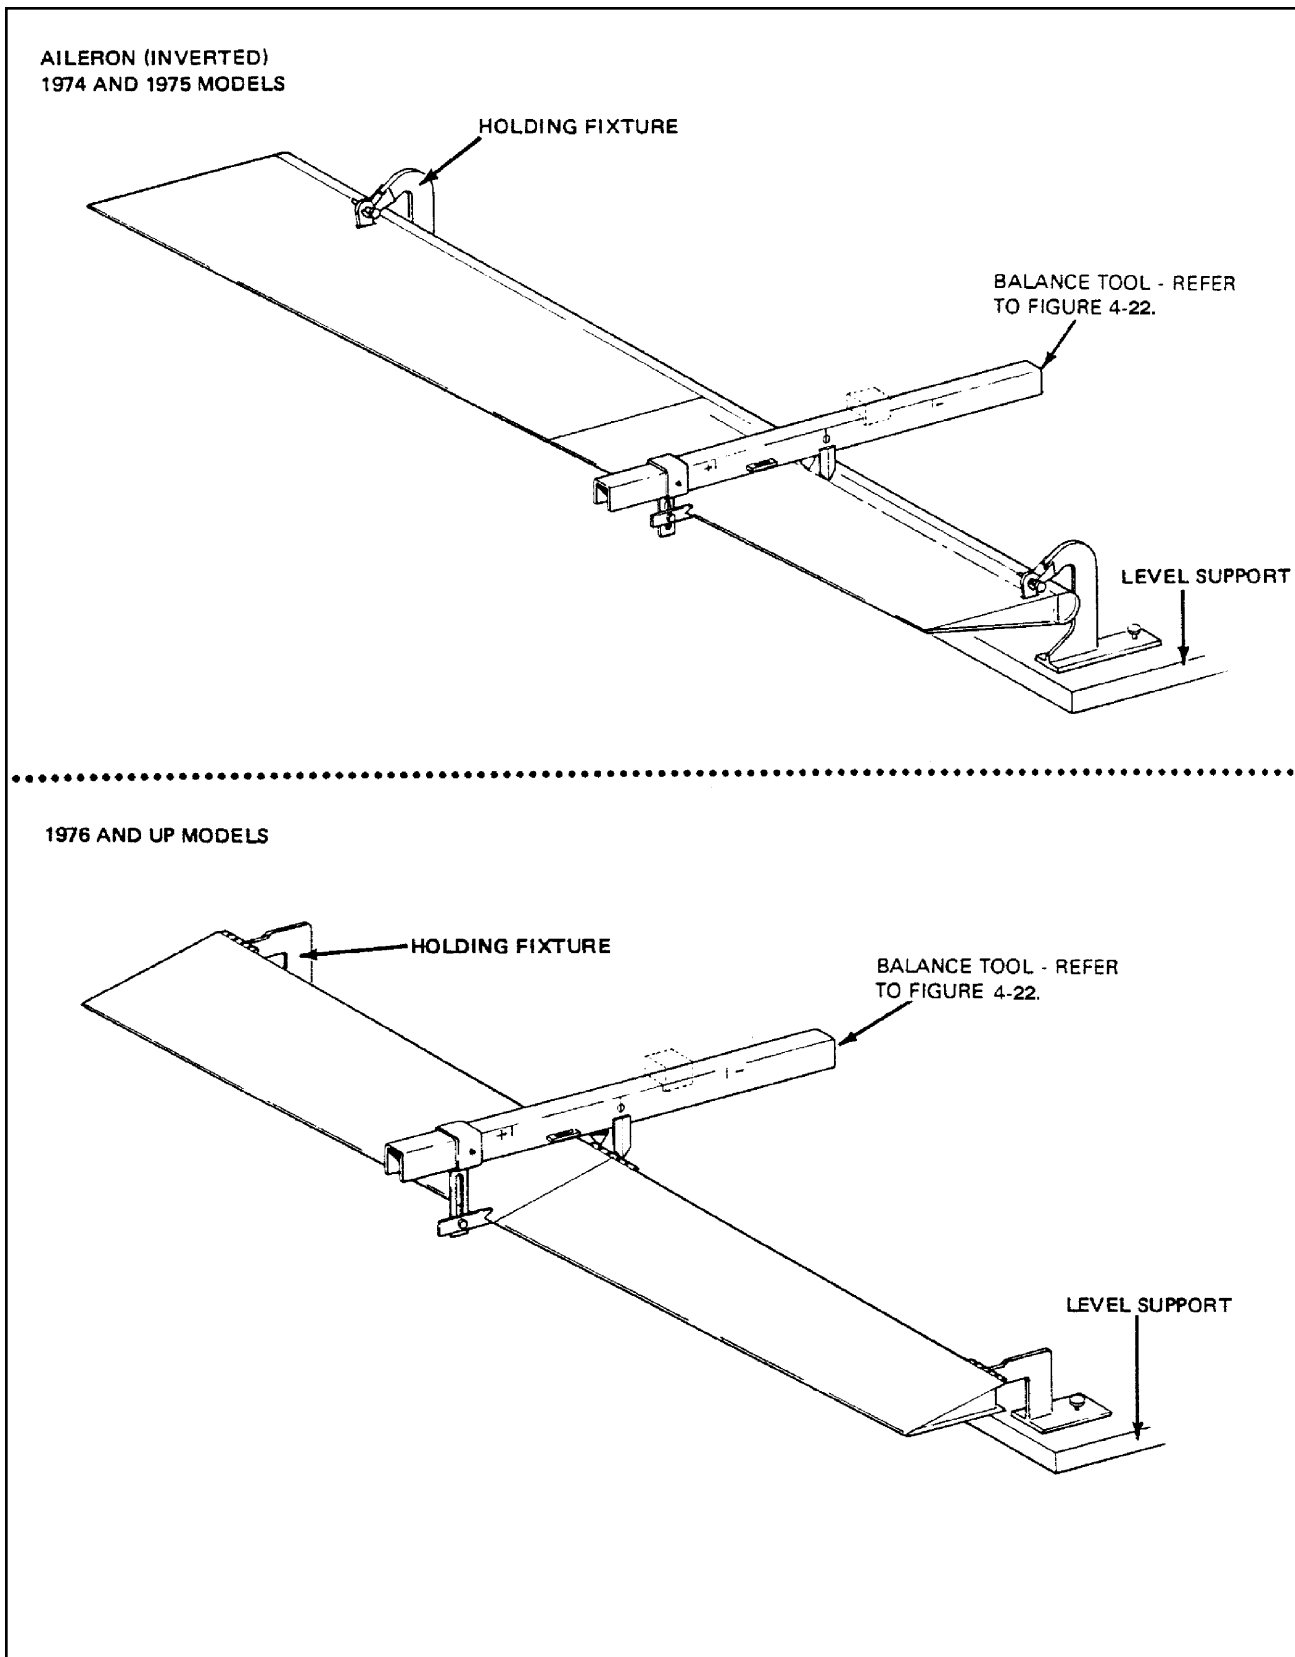

Figure 4-23. Aileron Balance
- d. After balancing the tool, reattach it to the control surface per Figures 4-23 thru 4-27. Keep the beam positioned 90° from the control surface hinge line.
### 4-61. BALANCING AILERONS. (Refer to Figure 4-23.)